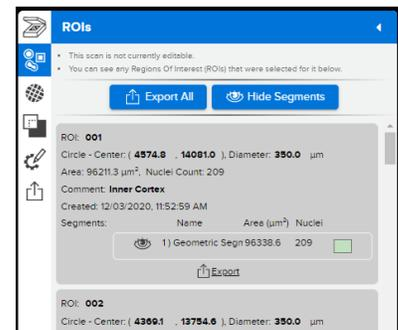

Figure 47: Scan Workspace ROIs Menu
8. Open the **ROIs menu** (Figure 47) to see the transferred ROIs. You may adjust these or add additional ROIs.